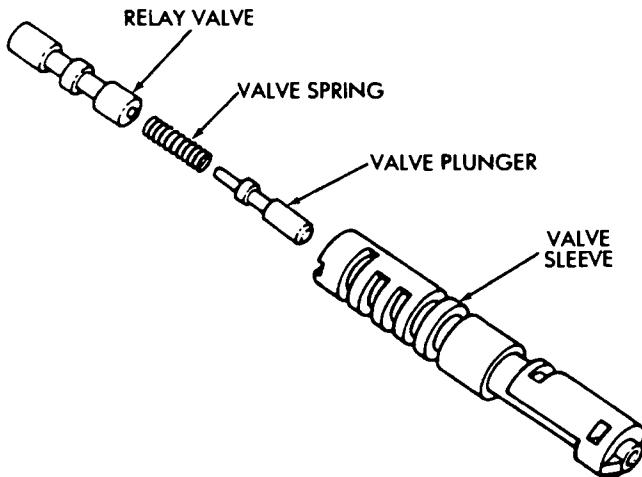

Fig. 9 Lockup Relay Valve Components
- (7) Assemble lock-up relay valve. Install spring and plunger in valve sleeve (Fig. 9). Then install assembled valve in sleeve.